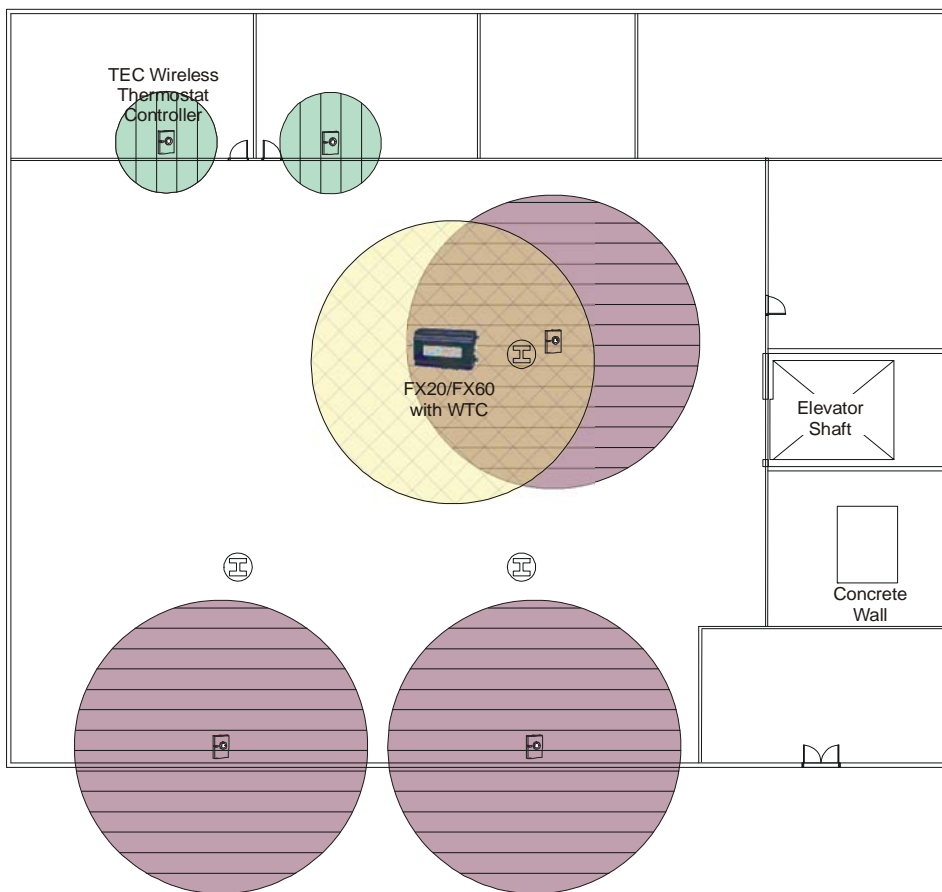

Figure 4: Building Floor Plan with TEC Series Wireless Thermostat Controllers and Circles Representing Wireless Signal Range
3. Try to locate the FX Supervisory Controller with WTC near the center of the space. See Figure 4. You must locate the FX Supervisory Controller with WTC on the same floor or building level as the associated TEC wireless thermostat controllers. The FX Supervisory Controller with WTC antenna should be in direct, unobstructed line of sight with a minimum of two wireless TECs. See Figure 4.
4. On your floor plans, draw a 30 m (100 ft) diameter (15 m [50 ft] radius) circle if transmitting in an open space (purple circle), or a 10 m (30 ft) diameter (5 m [15 ft] radius) circle if transmitting through walls (green circle) around each TEC wireless thermostat controller and FX Supervisory Controller with WTC, to help determine the wireless signal range. See Figure 4.